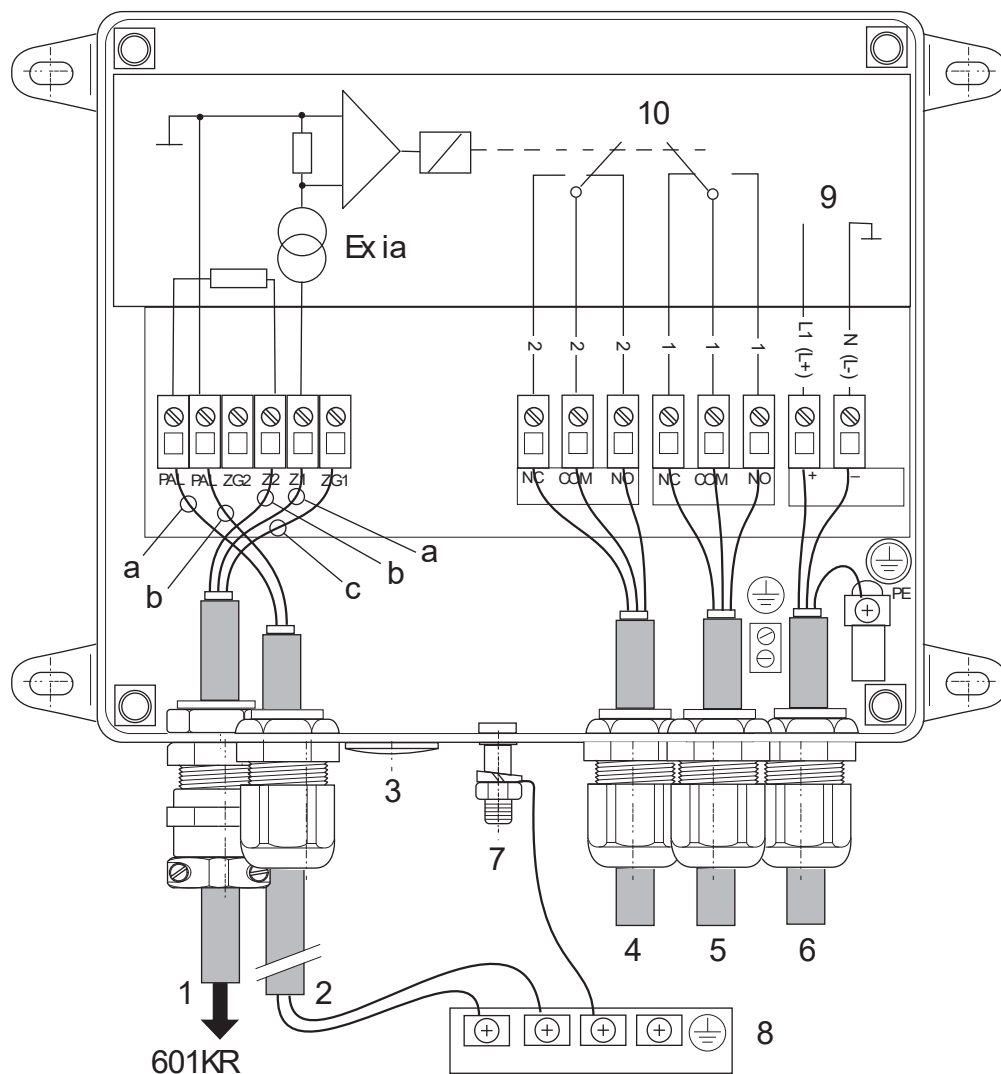
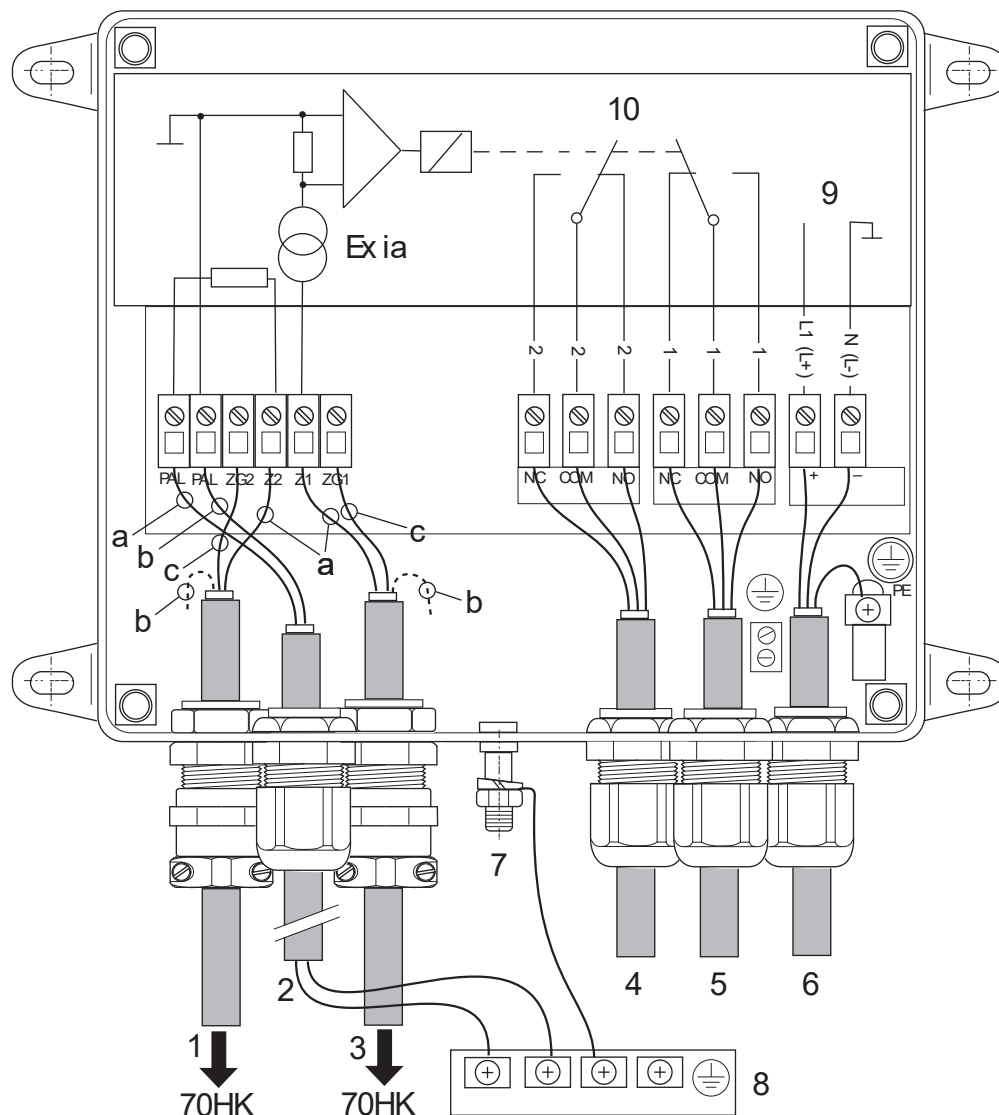

Fig. 4:
Fig. 5:
- The unit must be connected to the equipotential bond via the external ground terminal (7, Fig. 4 / Fig. 5). In addition, the ground terminal inside the enclosure must be connected to a PE conductor or a bonding conductor (see chapter 3.1.2 "Assembly", page 13).
- Intrinsically safe circuits must be routed separately from non-intrinsically safe circuits (separate cable conduits/ducts). Crossing intrinsically safe and non-intrinsically safe leads is not permitted. An equipotential bonding connection (PA) must be established along the entire intrinsically safe measuring circuit (see chapter 3.1.3 "Electrical connections", page 14, chapter 3.2.2 "Electrical connections", page 20).
- A potential equalization system (PA) has to be set up along the complete measuring circuit (see chapter 3.1.3 "Electrical connections", page 14).
The unit must always be connected to the equipotential bond via the external ground terminal (7, Fig. 4 / Fig. 5). In addition, the ground terminal inside the enclosure must be connected to a PE conductor or a bonding conductor.
The connection space of the unit is accessible after opening the cover of the enclosure. The terminals for the clamps are located on the left. These circuits are intrinsically safe. The non-intrinsically safe terminals for the supply voltage and the signal contacts are located on the right (see Fig. 4 / Fig. 5).
- Insert cable and connect according to Fig. 4 / Fig. 5.
The connecting lead of the ground contactor is routed in via the cable gland with kink guard (1, Fig. 4 / Fig. 5). Appliances for BIG-BAG grounding have two contactors, and the second lead is routed in via an additional cable gland with kink guard (3, Fig. 5).
A two-core cable for connecting the ground circuit with the PAL bonding lead is routed into the connecting terminal space via the cable inlet (2, Fig. 4 / Fig. 5). The double routing ensures that any disruptions to the PAL bonding lead are identified.
The two PAL leads belong to the intrinsically safe circuit, see cable entry 2, Fig. 4 / Fig. 5. The terminals of the Terrabox TCB030 are also marked as intrinsically safe terminals (blue).
The signal leads are routed via the cable inlets (4 and 5, Fig. 4 / Fig. 5), the supply voltage lead is routed in via the cable inlet (6, Fig. 4 / Fig. 5).
In the ex factory state, the lead-ins (2, 4 and 5, Fig. 4 / Fig. 5) are sealed. Lead-ins not used must be blanked off.